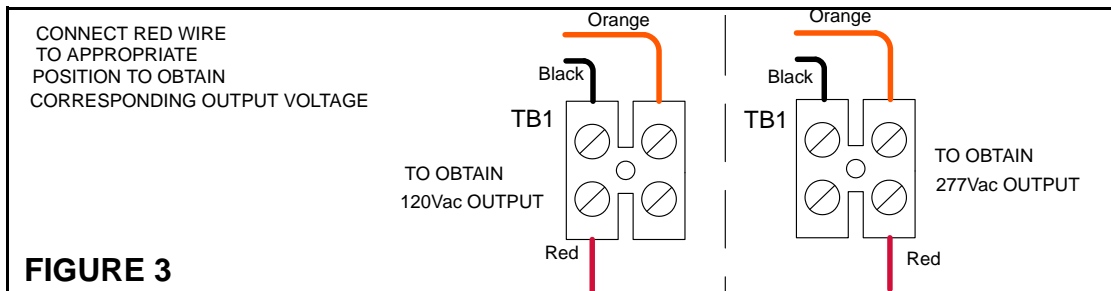

**FIGURE 2**
- a. Mini Inverter with option -4C can control four individual circuits (see figure 2).
- e. **Power supplied to the switched inputs must be fed from the same branch circuit as the unswitched input (see figure 2).**
- f. Unit is shipped from factory pre-set for 120V in // 120V out and configured for Normally-On load operation (see figure 2). This configuration can be changed to fulfill customer's application.
**STEP 2: CONFIGURATION OF OUTPUT VOLTAGE (SEE FIGURE 2 AND 3)**
- d. The neutrals of circuit# 1, circuit# 2, circuit# 3 and circuit# 4 are shorted at the output terminal block as shown in figure 2.